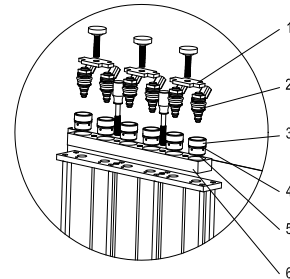

Fig. 06
- 3) Mount the cross plate (1) and tighten it with bolts.
- 4) Mount the fuel distributor and injectors onto the fuel distributor supporter, and tighten them with two raffle screws (black). See Fig. 06.